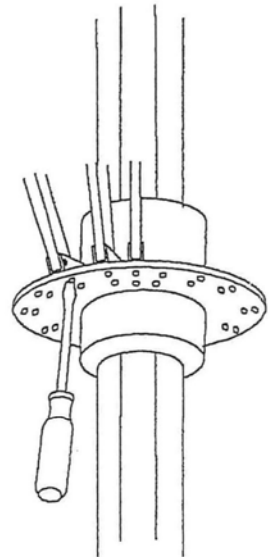

Fig. 13
- Unscrew the axle brackets of the roof struts from the slide and crown rings (Fig. 13).
- Hold the sunshade mast vertically and remove the securing screw (5) section 3.1.2.
- With the fixing stay (2) section 4.2 screw up the hinged disc and lowered wraparound ring.